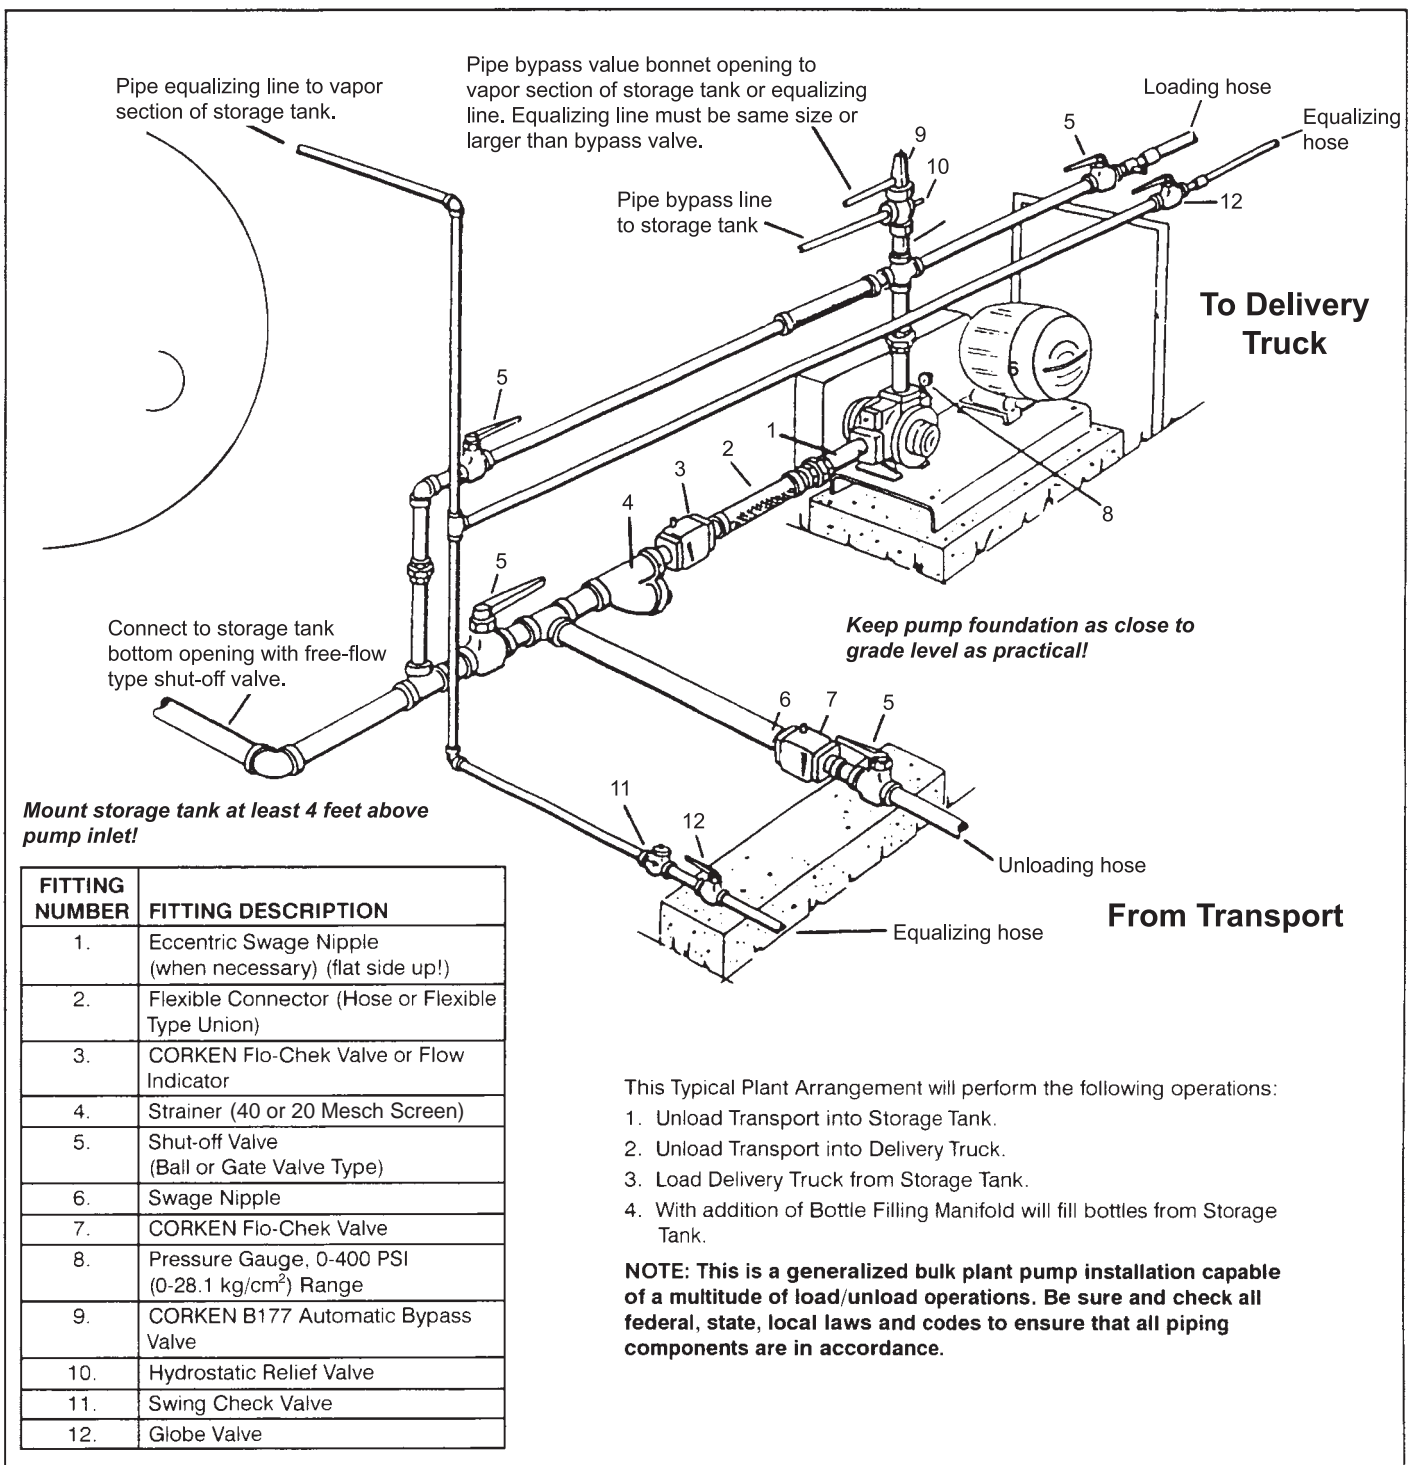

Figure 2: Typical Piping Diagram
No pump can discharge more liquid than it receives, so the pump location and the inlet piping must be given careful attention. If the inlet piping is inadequate to supply the demand of the pump, you may have trouble. In the piping diagram shown in figure 2, page 5, never use a piping size smaller than the inlet of the pump.
7. Inlet piping size should never be smaller than the inlet of the pump (see piping diagram in figure 2 for more details).
of the pump (see piping diagram in figure 2 for more details).
Another way to consider this principle is to remember that it takes two holes in an oil can for oil to be poured smoothly from the can; one for the oil to exit and the other for the air to enter (see the piping diagram in figure 2, page 5 for more details).